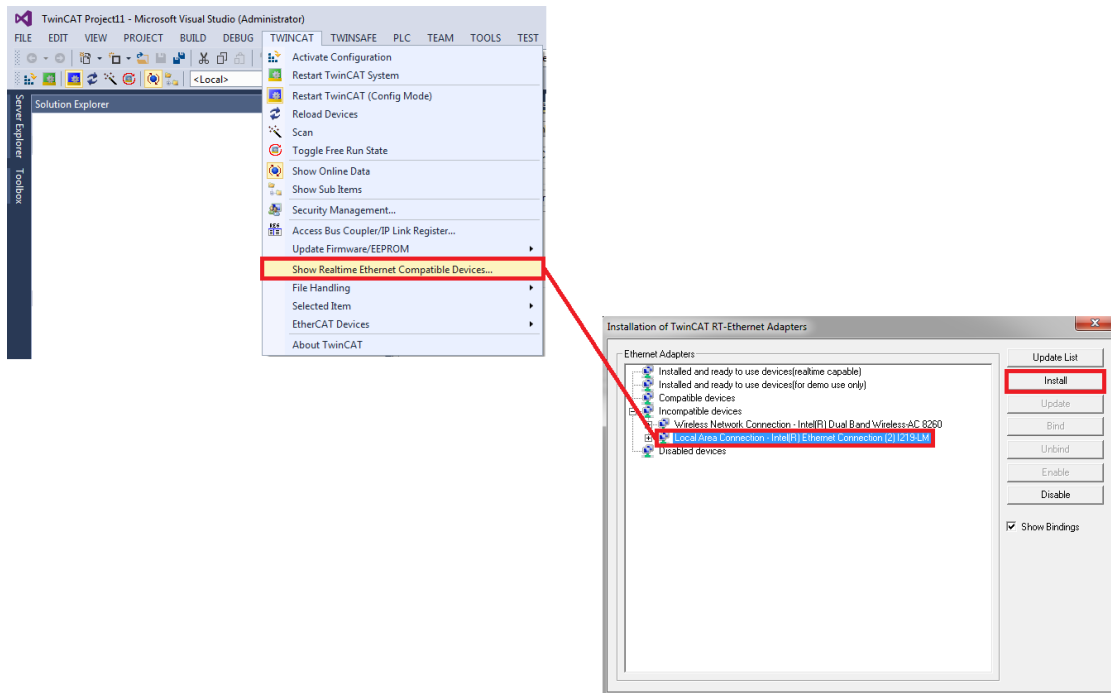

Figure 2: installation of the Real-Time Ethernet Driver
- d. The TwinCAT Real-Time Ethernet Driver has to be installed on the network card which will be used as EtherCAT master (Figure 2).